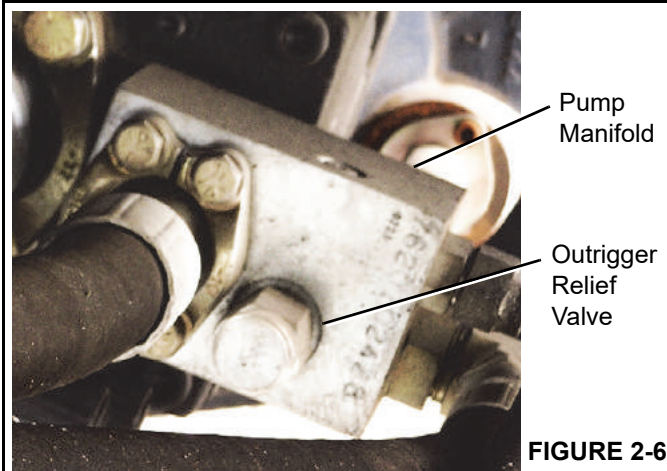

FIGURE 2-6
4. Activate the retract function for the selected outrigger. Adjust the relief pressure to 20684 +689/-0 kPa (3000 +100/-0) psi). The relief valve for the outrigger circuit is located on the pump manifold (Figure 2-6).